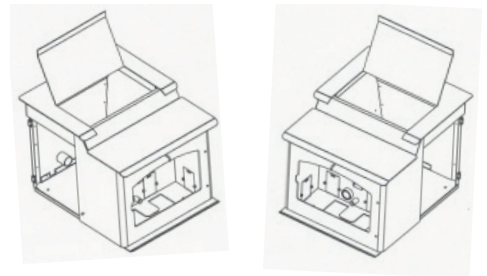

FIGURE 26
- Periodically remove and empty ash bin (see Figure 26) by unscrewing the two knobs on the front of the pedestal below the ash lip. Dispose of ashes properly. (See “ASH REMOVAL” above)
- Interior Chambers – Four ash doors in the firebox in the SP23 can be removed for periodic cleaning (refer to figure 26). These doors allow access to the chamber surrounding the firebox. Periodically, you must vacuum ashes from this chamber. In some cases you will need to remove creosote, which can accumulate rapidly under certain conditions. A small wire brush can be used. It is important to remove this creosote because it is highly combustible. **INSPECT BEHIND THESE CLEANING PLATES AT LEAST ONCE PER TON OF PELLETS BURNED UNTIL YOU ARE FAMILIAR WITH HOW ASHES AND CREOSOTE ACCUMULATE WITH YOUR OPERATING PRACTICES.** Use the small wire brush to also clean the inside of the chamber walls, above the access doors.